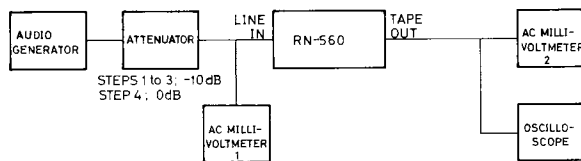

Fig. 4
1. Connect the measuring instruments as shown in Fig. 4.